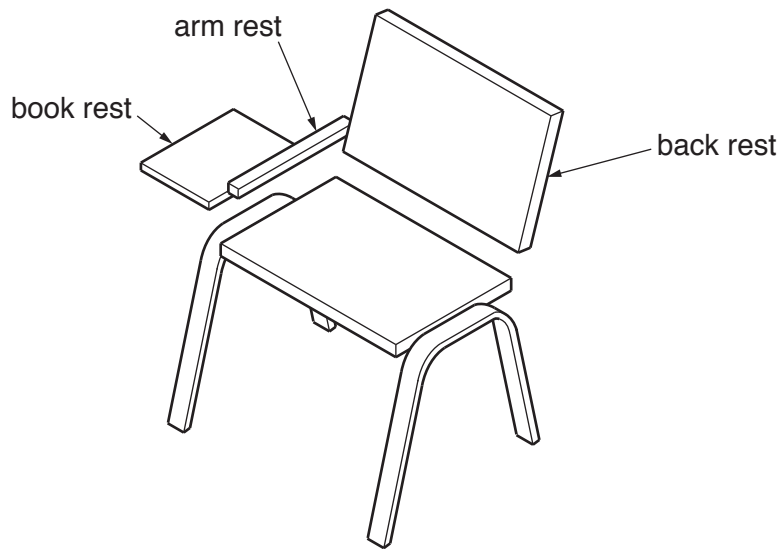

Fig. 9.1
- 9 Fig. 9.1 shows an incomplete idea for a college chair with a book rest.